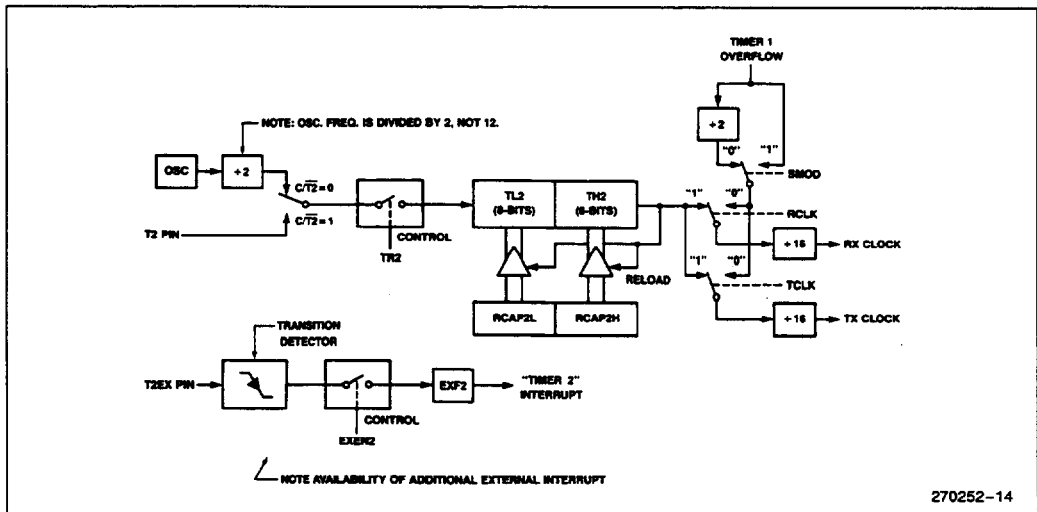

Figure 16. Timer 2 in Baud Rate Generator Mode
11). Note then the baud rates for transmit and receive can be simultaneously different. Setting RCLK and/or TCLK puts Timer 2 into its baud rate generator mode, as shown in Figure 16.
Timer 2 as a baud rate generator is shown in Figure 16. This Figure is valid only if $RCLK + TCLK = 1$ in T2CON. Note that a rollover in TH2 does not set TF2, and will not generate an interrupt. Therefore, the Timer 2 interrupt does not have to be disabled when Timer 2 is in the baud rate generator mode. Note too, that if EXEN2 is set, a 1-to-0 transition in T2EX will set EXF2 but will not cause a reload from (RCAP2H, RCAP2L) to (TH2, TL2). Thus when Timer 2 is in use as a baud rate generator, T2EX can be used as an extra external interrupt, if desired.